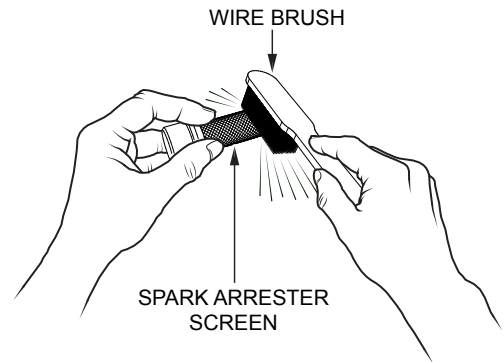

Figure 24. Cleaning The Spark Arrester
4. Carefully remove carbon deposits from the spark arrester screen (Figure 24) with a wire brush.